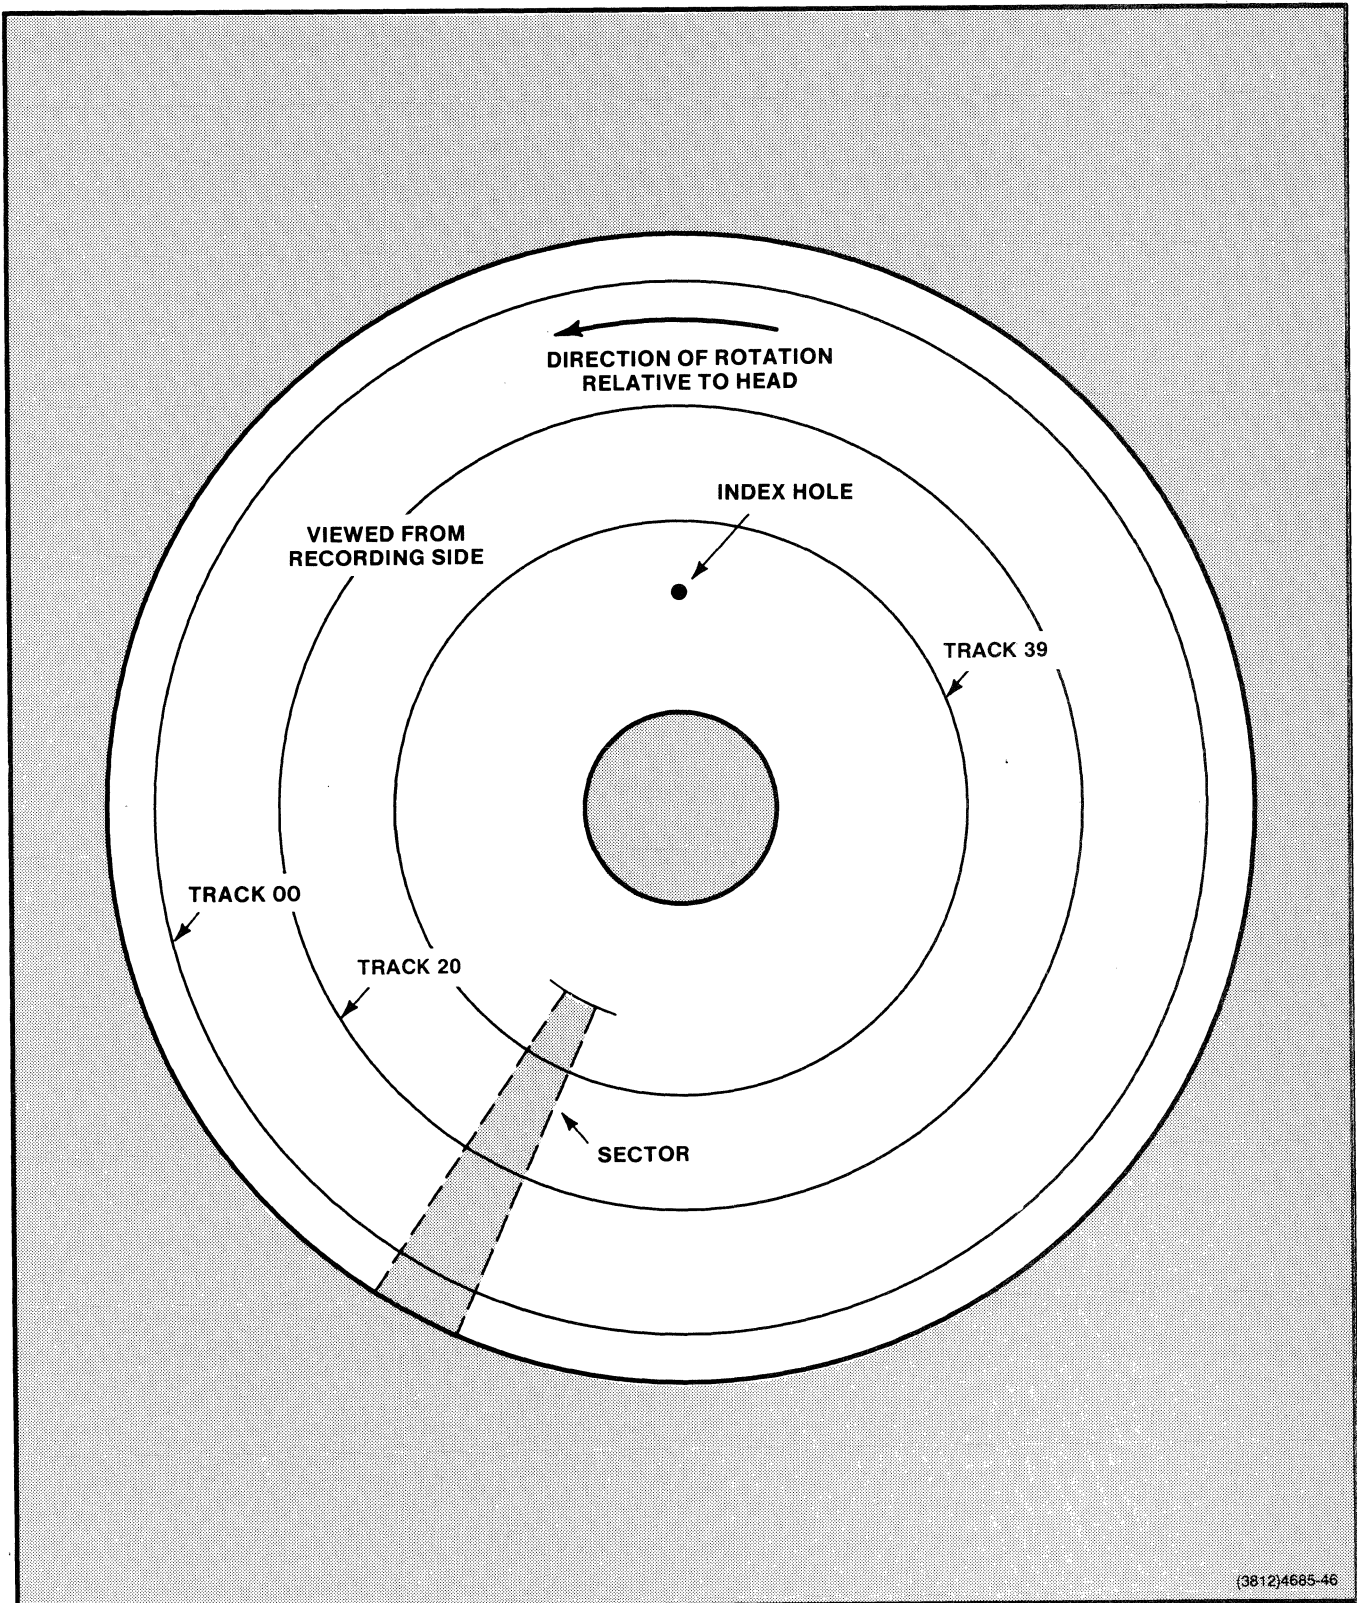

Figure 12-22. Flexible Disk Track and Sector Locations.
The diskette is divided into tracks and sectors (Figure 12-22). As the diskette spins under the read/write (R/W) head, the head traces a closed circular path around the disk. This path is where the data is written and is called a track. As the R/W head steps toward or away from the center of the disk, it traces different tracks. There are 40 concentric tracks on one side of a diskette. The lowest numbered track, 00, is on the outside of the disk; the highest numbered track, 39, is closest to the center. An index hole that is read by a photocell (the Index Detector) marks the beginning of each track. (1)
(1) The FDC also uses the index hole to tell when an entire track has been scanned when seeking a particular data record. If the data record is not found after a complete revolution of the disk, the FDC aborts the search, notes an error, and goes on to the next command. This prevents the FDC from being trapped in an endless search.